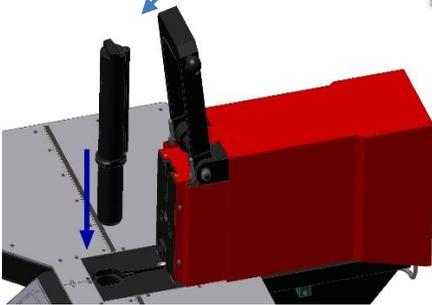
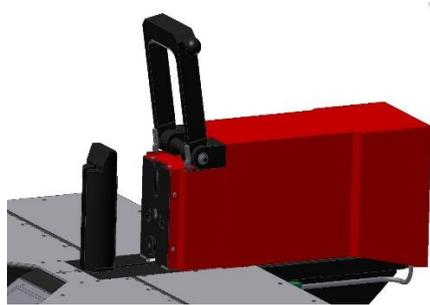

Fig. 29.
Fig. 30.
- Slide the bending mandrel into the hole in the body (fig. 29) (fig. 30).